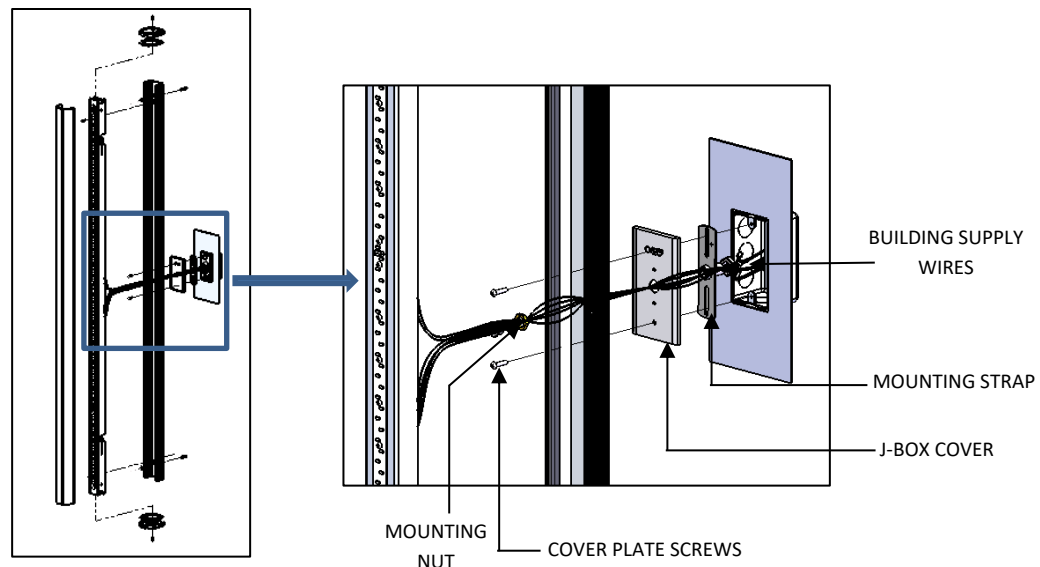

FIG.12 – WIRING CONNECTION
6. Pull Black, White & Green supply wires through center hole of BACK CHANNEL as shown in FIG. 12 and separate the DRIVER COVER from the EXTRUDED BACK CHANNEL. And secure the BACK CHANNEL with MOUNTING NUT, LOCK WASHER and TWO #8-32 ROUND HEADED SCREWS as provided.